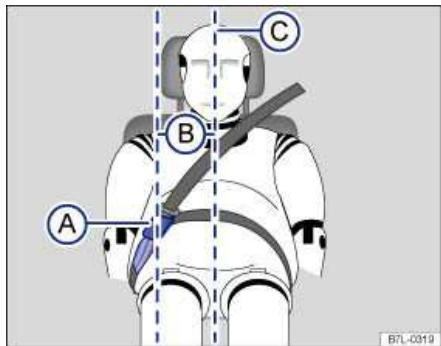

Fig. 71 Positioning of the safety belt extender.
Key to fig. 71:
- Never use a safety belt extender if the distance (B) between the front edge of the safety belt extender buckle (A) and the centerline of the person using the safety belt extender ⇒ **fig. 71 (C)** is less than 6 inches (15 cm).